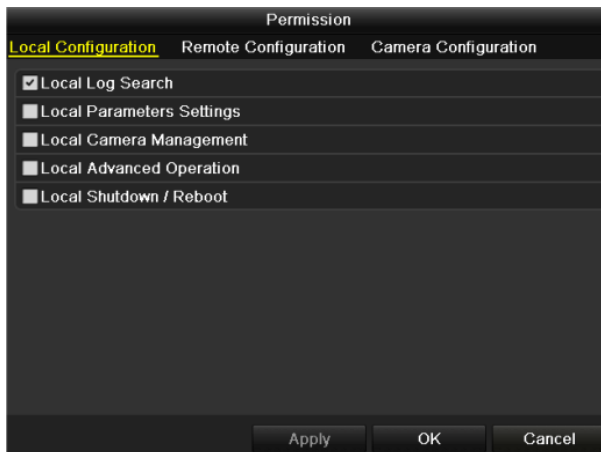

Figure 15.8 User Permission Settings Interface
5. Select the user from the list and then click the button to enter the Permission settings interface, as shown in Figure 15.8.